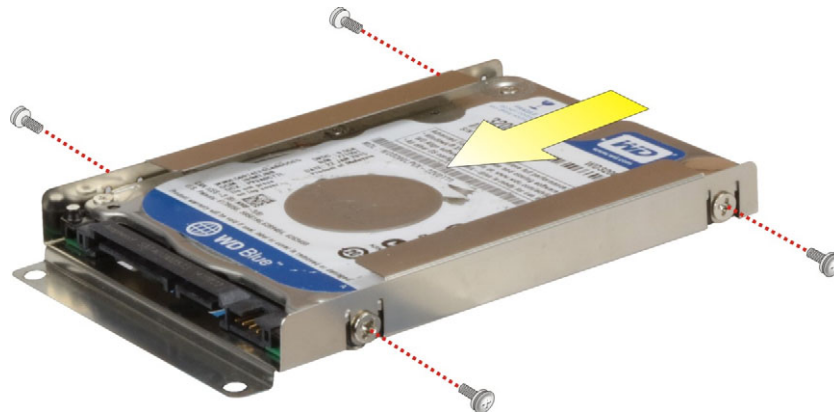

Figure 3-3: HDD Retention Screws
- Step 4:** Slide the HDD into the HDD bracket, aligning the four retention screw holes in the both sides of the HDD bracket with the retention screw holes on the sides of the HDD (**Figure 3-3**).
- Step 5:** Insert four retention screws (M3*5) into the bracket (**Figure 3-3**).